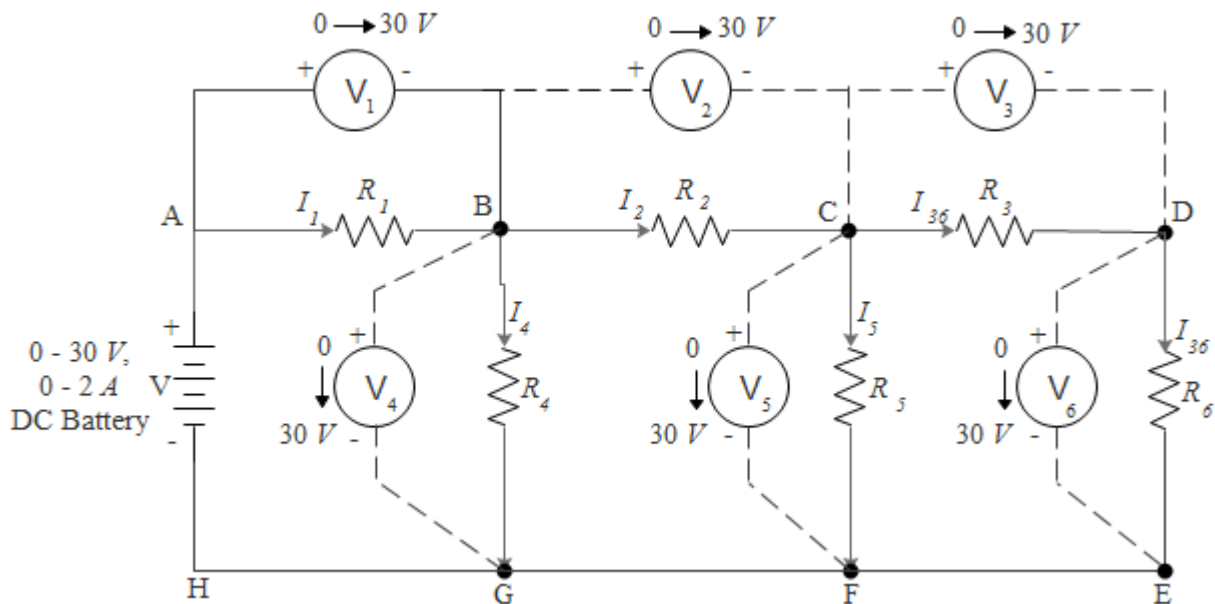

Fig. 1B.4: Circuit Diagram for Kirchhoff's Voltage Law
1. The circuit is connected as shown in Fig. 1B.4.